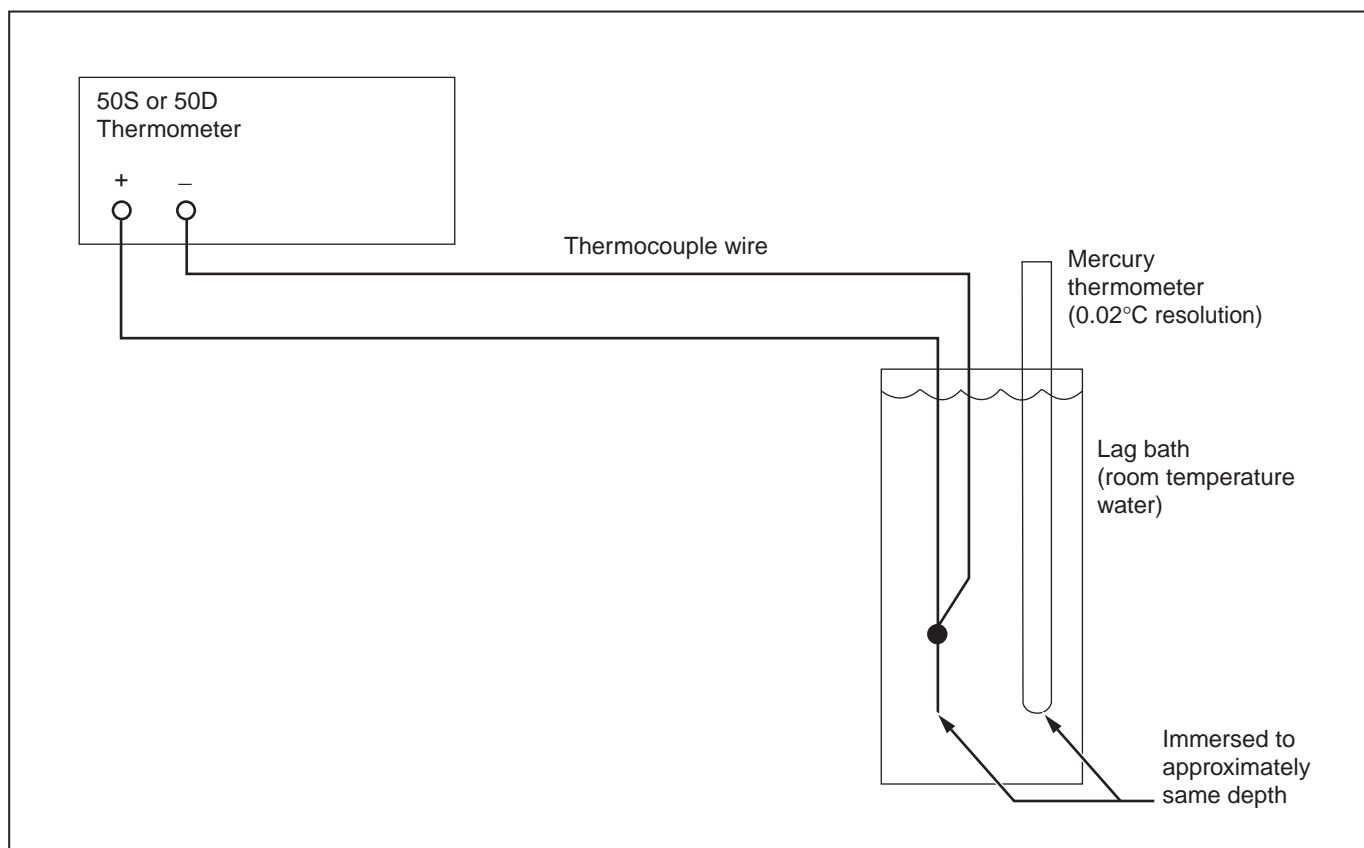

Figure 6. Room Temperature Lag Bath
1. Construct an ambient temperature lag bath as shown in Figure 6.